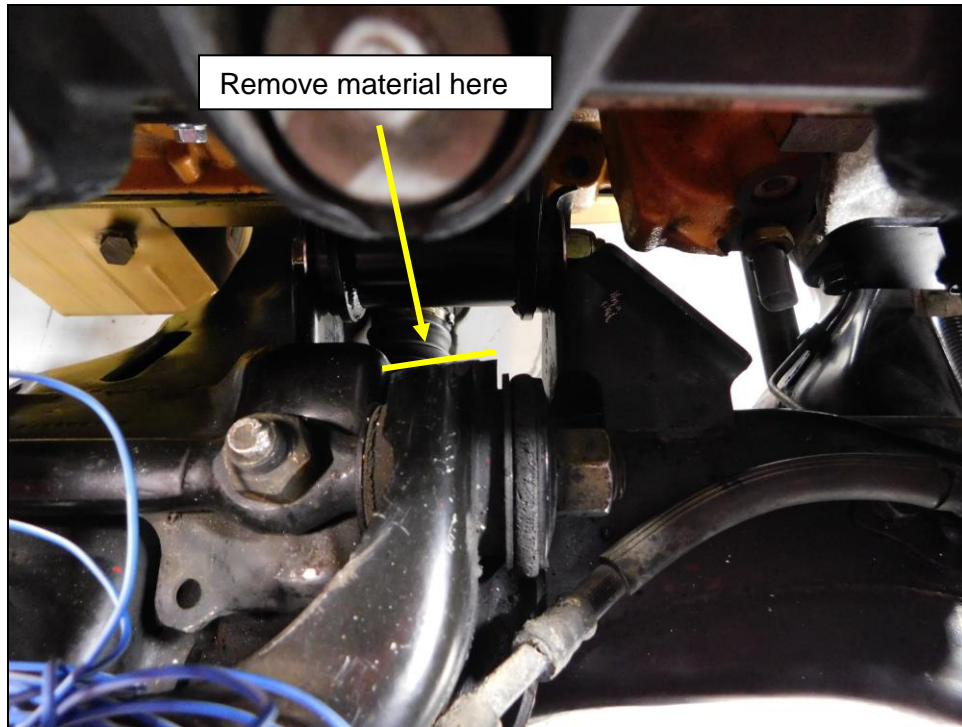

Figure 1
2. Trim the Right (Passenger's side) control arm, as shown in **Figure 1**. Remove approximately 3/8" from the upper part of the flange at the front and rear bushing. Do not cut into the bushing mounting flange. It is only the excess material at the end of the control arm that needs to be removed. Radius and deburr all edges after trimming the control arm.